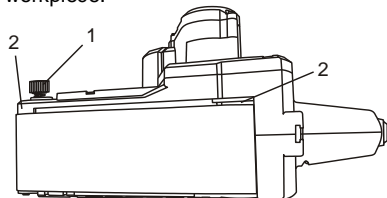

Fig. 6
3. While the sanding belt is turning, turn the tracking adjustment knob (1) very slightly and observe how the sanding belt moves on the sanding belt rollers (2) (Fig. 6).
1. Squeeze the trigger switch and check to make sure the sanding belt is tracking in the center of the sanding belt rollers. Adjust if necessary (Fig. 6).